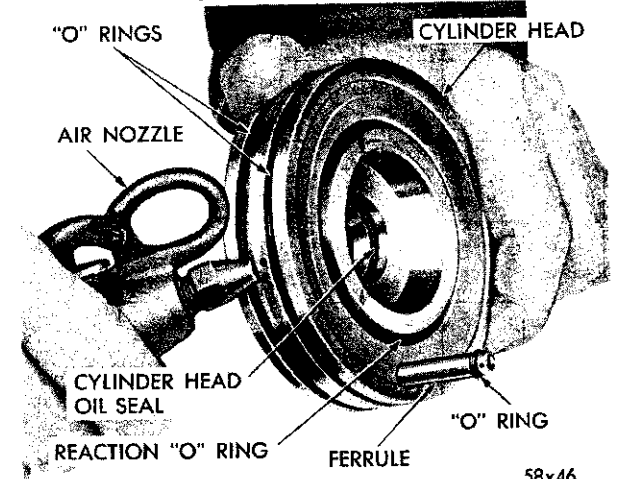

Fig. 20—Removing the Reaction Ring Seal From The Cylinder Head
(1) Remove the two "O" rings in the two outer grooves in the cylinder head.
(2) Remove the lower reaction "O" ring in the groove in the face of the cylinder head. Apply air pressure into the oil hole located in the groove between the two "O" ring grooves (Fig. 20).